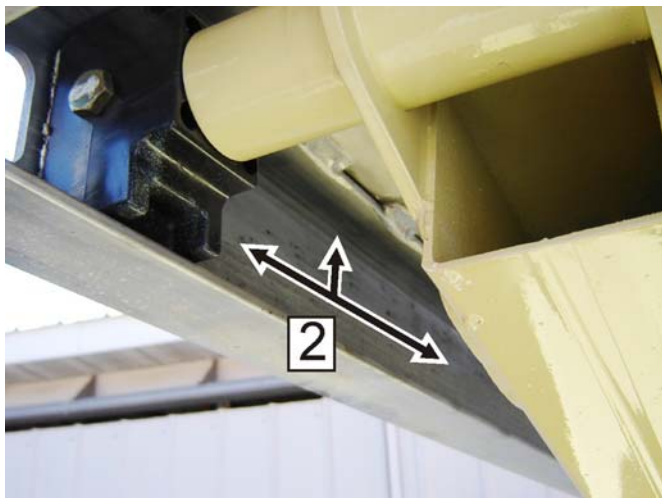

Figure 5-3. Upper Slide Pad Channel
4. Apply a layer of grease along the inside and top of the upper slide channel (2) on both sides of the machine. Refer to Figure 5-3., Upper Slide Pad Channel.